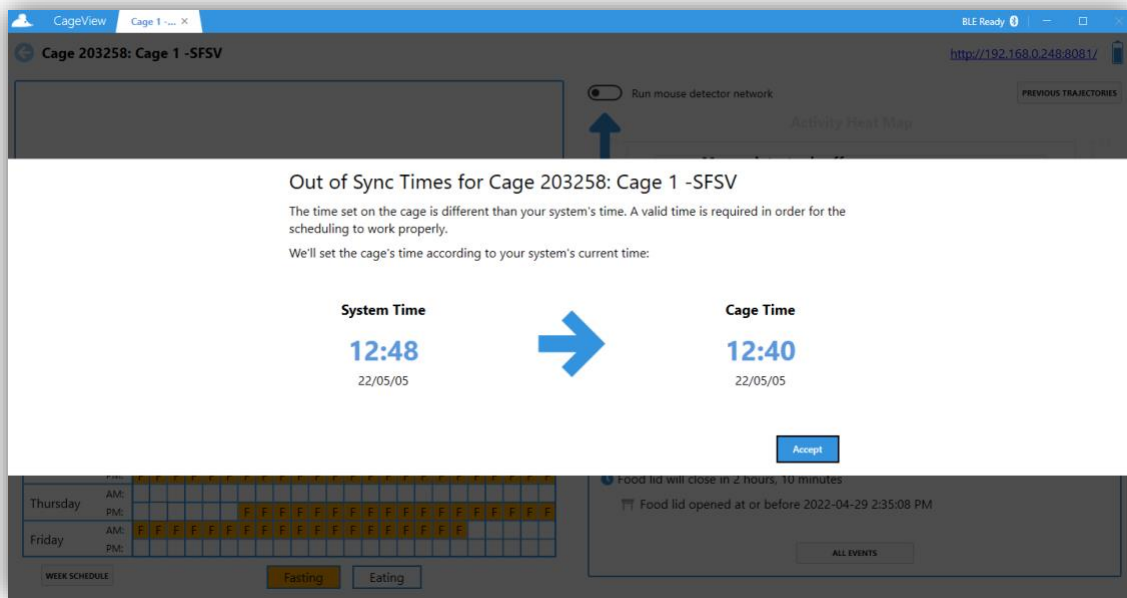

Figure 27. CageView - Out of sync times
5.3.6. Since the BLE CageView can function stand-alone without the App, it requires a correct time and the diet schedule to be set on the board. The dialog shown in **Figure 27** will only pop up when the system time the App is running differs from the time set on the BLE CageView.